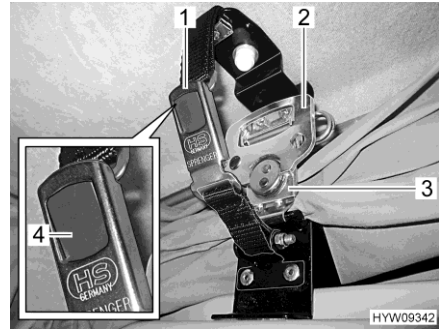

Fig. 63 Lock
- On both sides, pull down the quick-action turnbuckle (Fig. 63,3) and hang it into the holding plate.
- On each side, fold out the handle (Fig. 63,2) of the quick-action turnbuckle and turn half a turn in a clockwise direction.
- Plug both parts of the snap lock (Fig. 63,1) together, respectively. The grey push button (Fig. 63,4) engages.